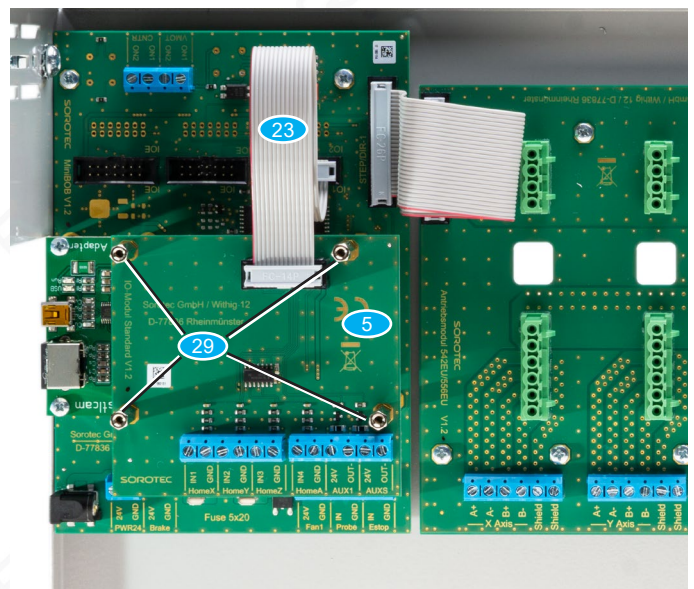

Fig. 14: Mounted C3 IO-Module Basic
- Mount the C3 IO-Module Basic **5** using four additional spacer sleeves M3 x 20 **29**, as shown in Fig. 14.